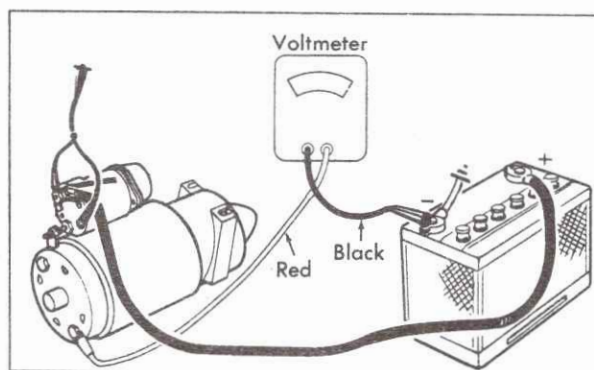

Fig. 6-12 Ground Circuit Test
2. Connect test leads as shown in Fig. 6-12.
3. Connect starter solenoid remote switch as shown in Fig. 6-12.